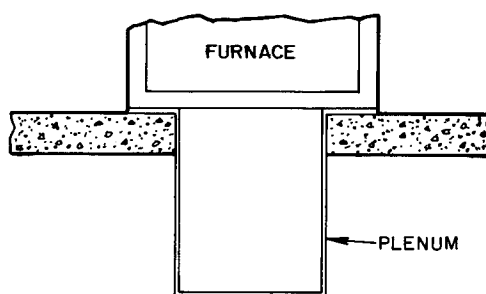

Fig. 5 — Furnace on a Concrete Slab
3. Place plenum and furnace. See Fig. 5.